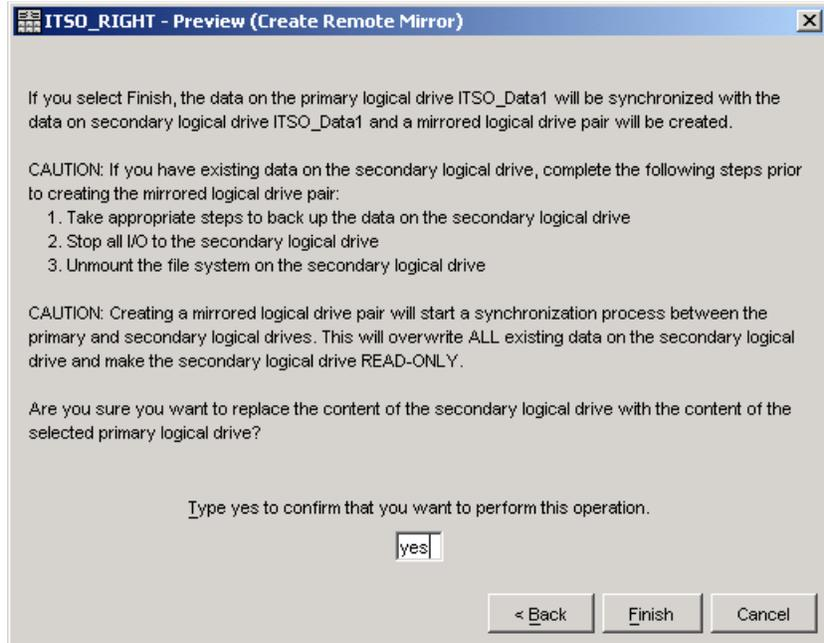

Figure 8-33 Preview (Create Remote Mirror)
8. The Preview window (Figure 8-33) is the last step before the Remote Mirror is created. Type **Yes** in the box and then click **Finish** to create the Remote Mirror.